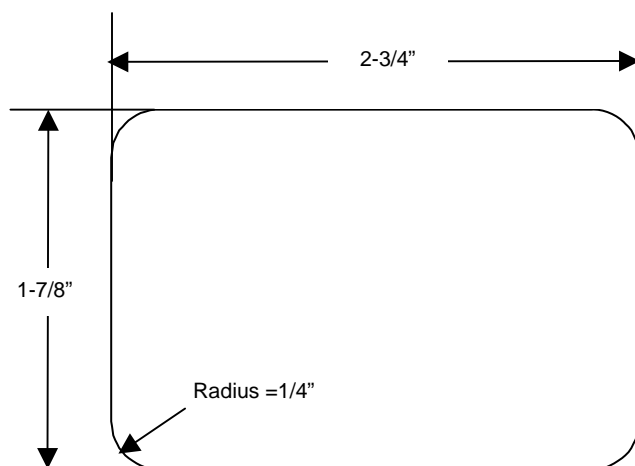

Fig. 1
This unit is mounted in a 1-7/8" x 2-3/4" hole cut in the face of the elevator control panel (see Fig. 1). The mounting hardware adapts to fit a panel thickness of 1/16" to 5/16". A depth of 2-1/8" is required behind the panel for installation.
2. Use the template (included) to cut the proper hole in the elevator control panel or use the alternate cutout described in Fig. 1.